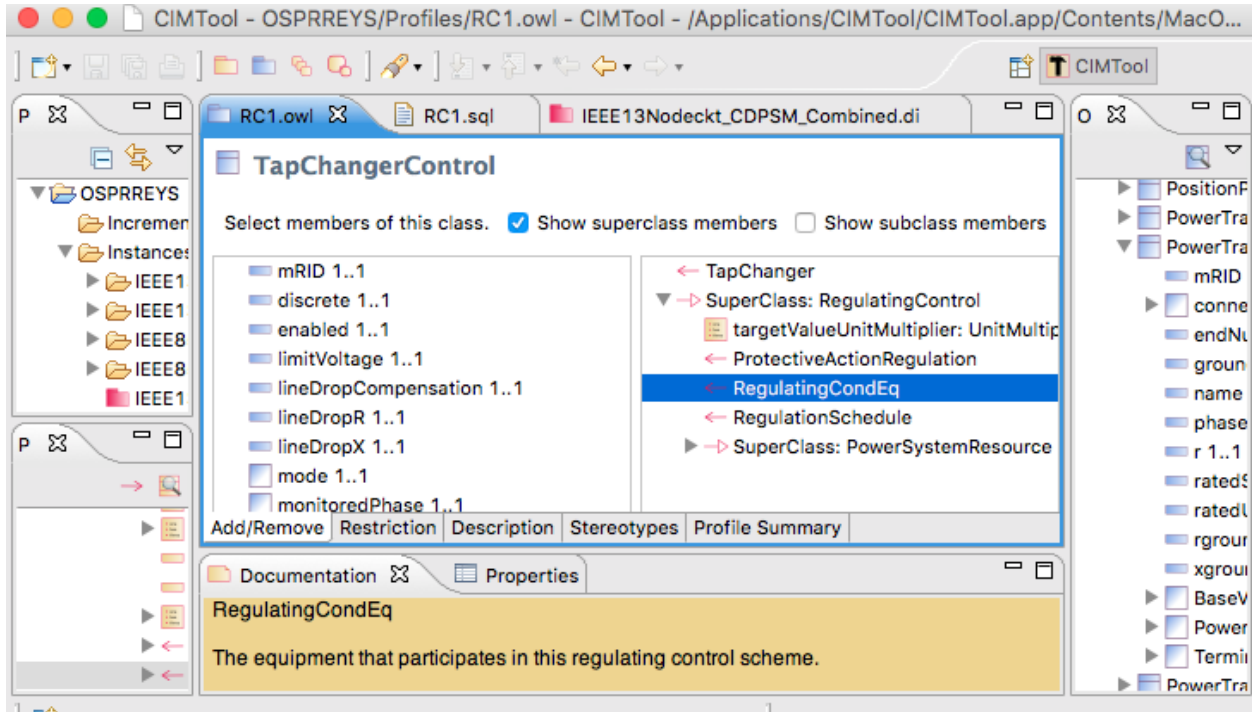

Figure 36: Profiling TapChangerControl in CIMTool; the inherited RegulatingCondEq is not included.
2. **Minimum cardinality:** For TapChangerControl instances, the inherited RegulatingControl.RegulatingCondEq association is not specified. This is not really an error, as the association is only needed for shunt capacitor controls. Figure 36 shows that RegulatingCondEq was not selected for TapChangerControl in the profile, so this may reflect a defect in the validation code. Efforts to circumvent it were not successful.
As shown at the top of Figure 36, CIMTool builds *RC1.sql* to create tables in a relational database, but the syntax doesn't match that required for MySQL. The following manual edits were made: